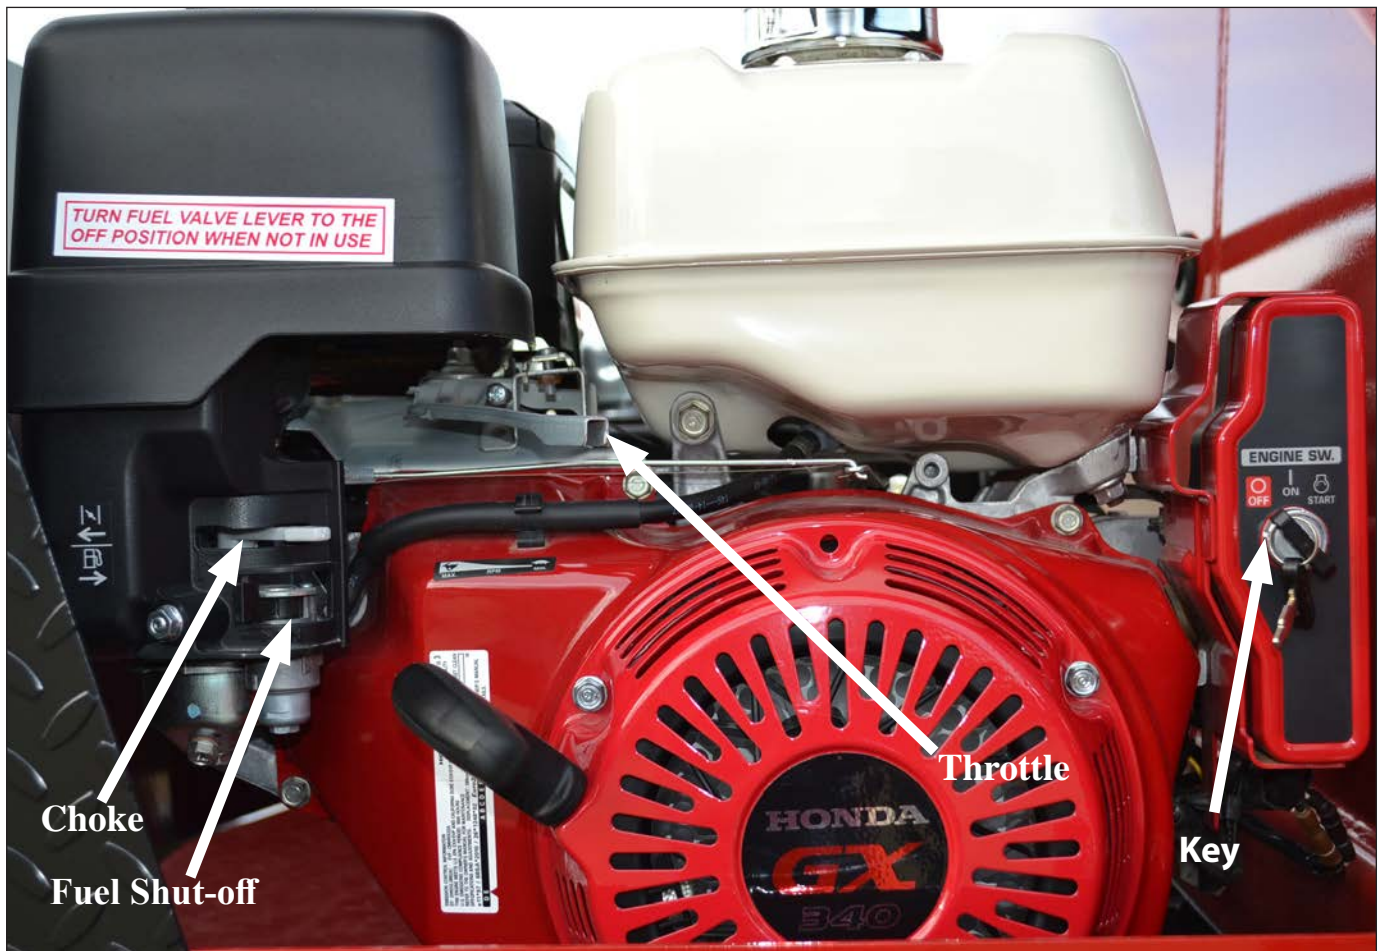

Figure 1.2
2. Slide the Fuel Shut-off Lever to the "ON" position (Figure 1.2).
3. Slide Choke Lever to the "ON" position (Figure 1.2).
4. Turn the key to the start position. Once engine starts, release key (Figure 1.2).
5. After starting, allow the engine to warm-up. Slide choke to the "OFF" position, and increase throttle speed (Figure 1.2).
6. To turn the engine off, slide the Fuel Shut-off to the "OFF" position (Figure 1.2).
3. Start the hydraulic power unit and increase throttle speed. (Allow hydraulic fluid to warm-up.)(Figure 1.2).
2. Start the hydraulic power unit and increase throttle speed. (Allow hydraulic fluid to warm up if it is cold outside) (Figure 1.2).